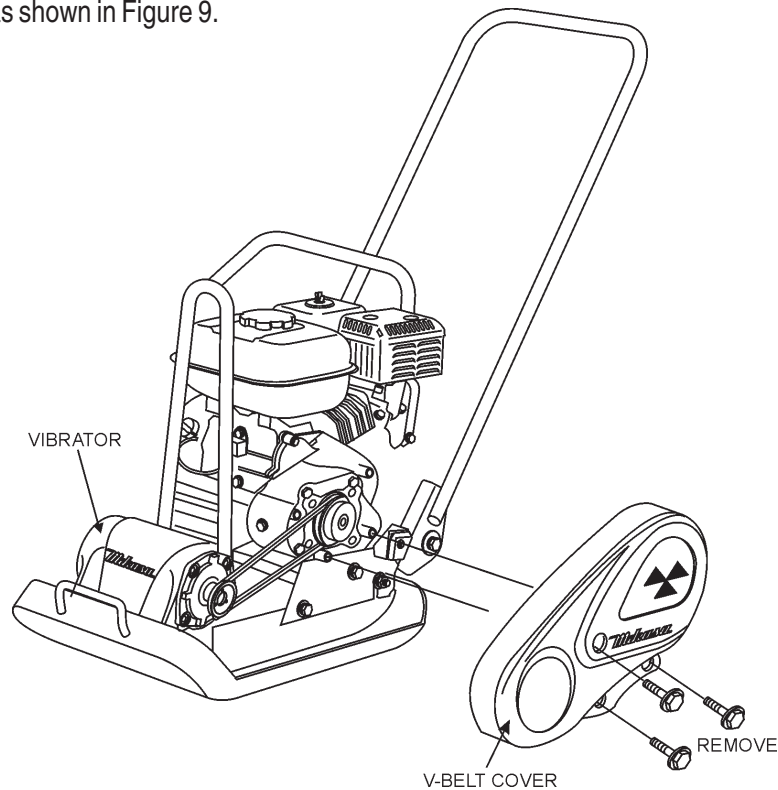

Figure 9. V-Belt Cover Removal
1. To check the V-belt tension, remove the bolts that secure the belt cover to the frame as shown in Figure 9.